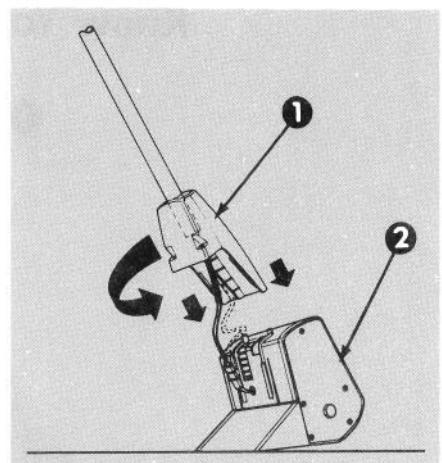

Figure 6
13. Set power head as shown in Figure 6 so that assembled handle may be inserted and pushed down. Turn handle clockwise 1-1/2 turns until the power head and handle are properly aligned.